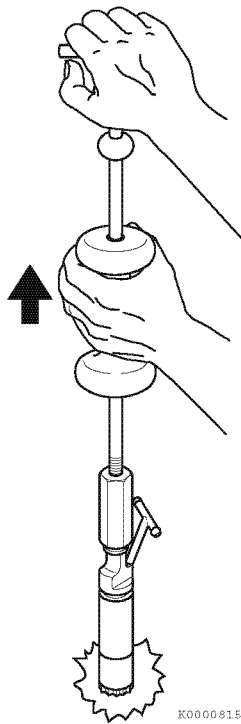

Figure 7-52
*Note: The fuel injectors can usually be removed by manually pulling them out of the fuel injector wells. If the fuel injectors cannot be manually removed, use the fuel injector removal tool, YANMAR Part No. 129470-92305, and a slide-hammer puller (Figure 7-52).*